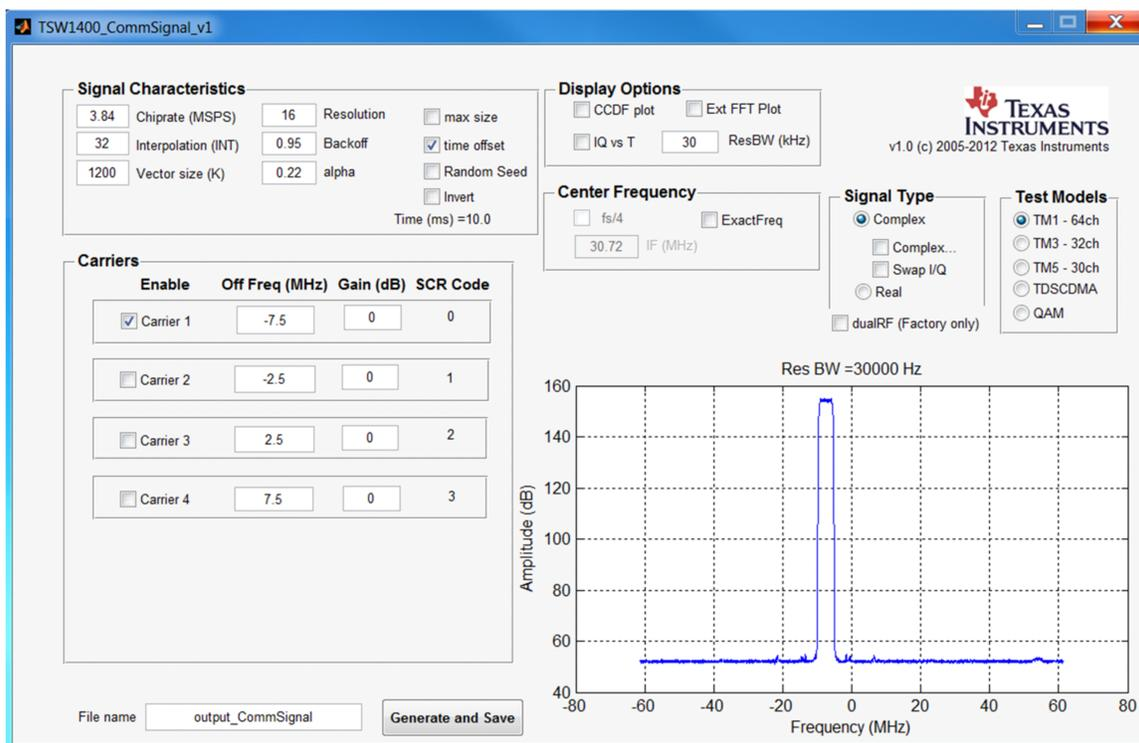

Figure 15. Generated LTE Pattern Loaded Into High Speed Data Converter Pro
4. Enter the **Data Rate** (61.44 MHz) and DAC option (2's complement) as shown in Figure 15.